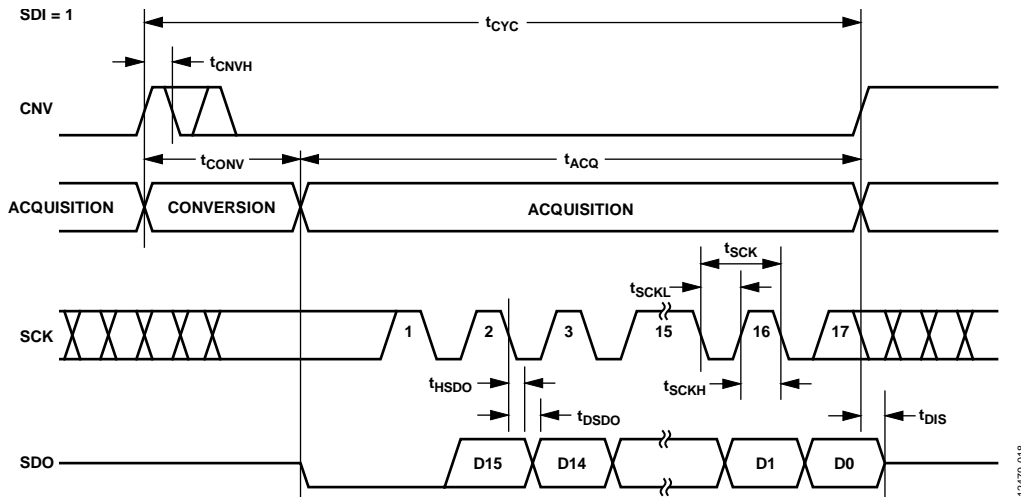
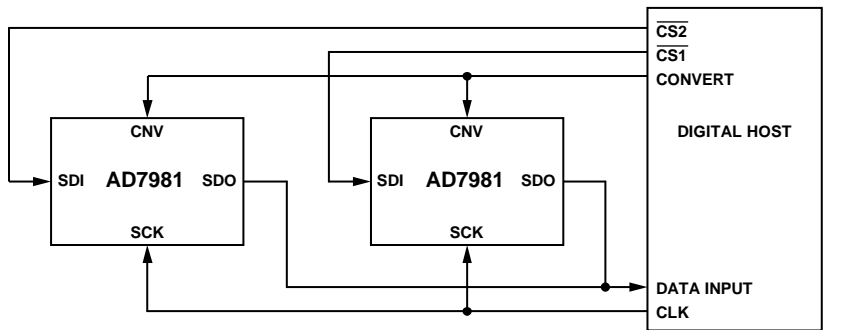
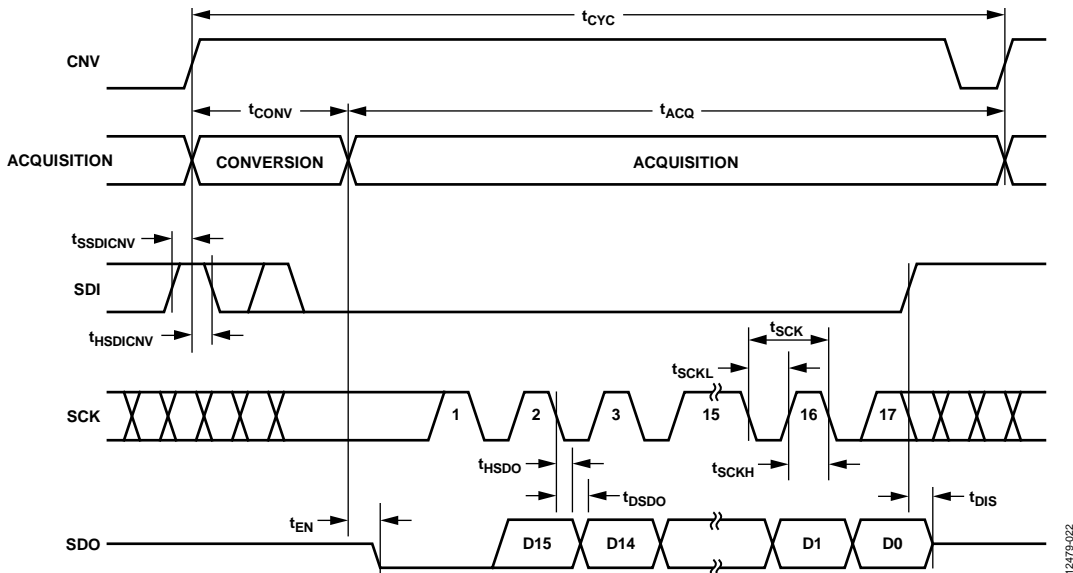
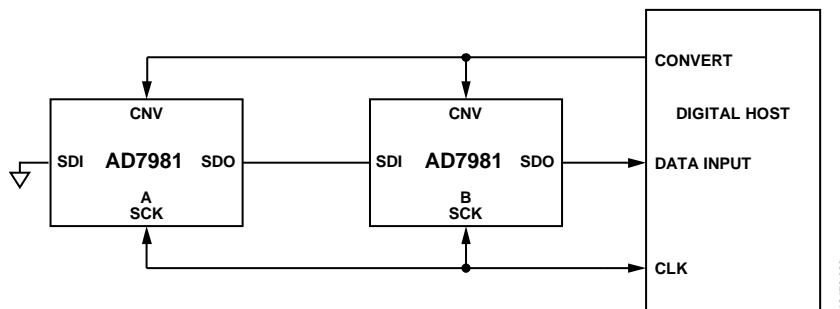

Figure 44. 3-Wire \overline{CS} Mode with Busy Indicator Serial Interface Timing (SDI High)
Figure 45. 4-Wire $\overline{\text{CS}}$ Mode Without Busy Indicator Connection Diagram
Figure 48. 4-Wire $\overline{\text{CS}}$ Mode with Busy Indicator Serial Interface Timing
Figure 49. Chain Mode Without Busy Indicator Connection Diagram
- In $\overline{\text{CS}}$ mode if CNV or SDI is low when the ADC conversion ends (see Figure 45 and Figure 49, respectively).
The 3-wire \overline{CS} mode with a busy indicator is typically used when a single AD7981 is connected to an SPI-compatible digital host having an interrupt input. The connection diagram is shown in Figure 44, and the corresponding timing is given in Figure 45.
The connection diagram is shown in Figure 48, and the corresponding timing is given in Figure 49.